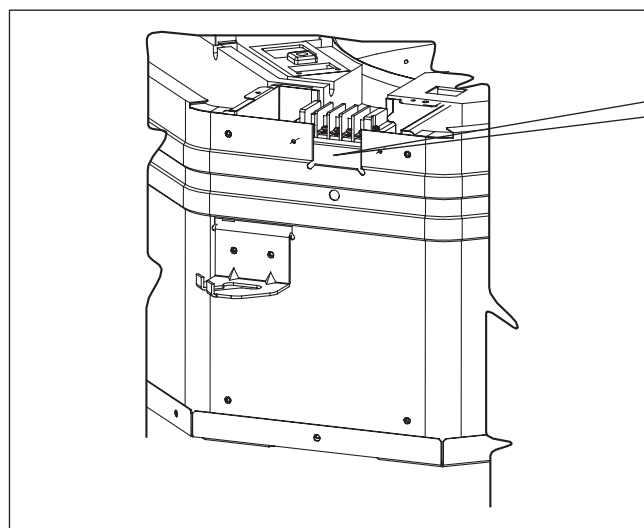

Figure 4
2. Wires will go through the hole as shown in Figure 4 and 5 respectively without crossing the height of the hole.